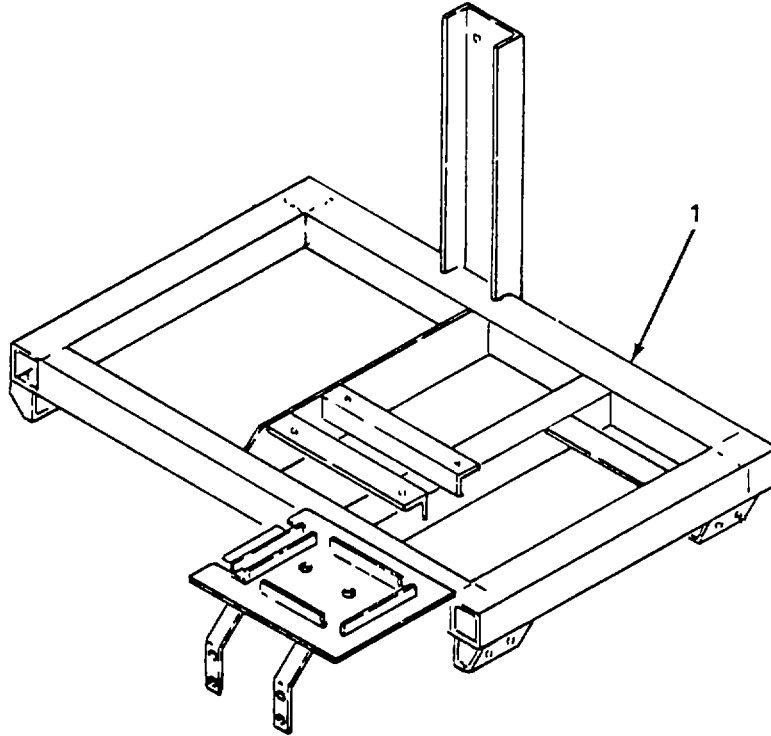

Figure 5-75. Inner Frame, Repair.
b. Repair. (figure 5-75)
- (1) Remove inner frame (para. a. above).
- b. Repair. (figure 5-75)